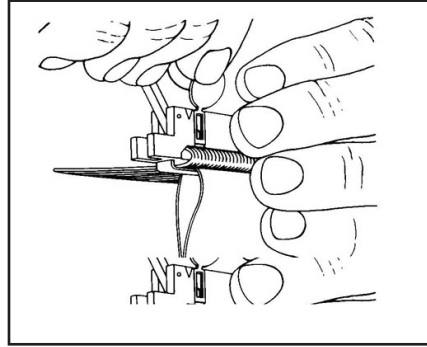

Figure 12
- b. Depress the tab slightly outward and push down until the hook is engaged. (Figure 12)